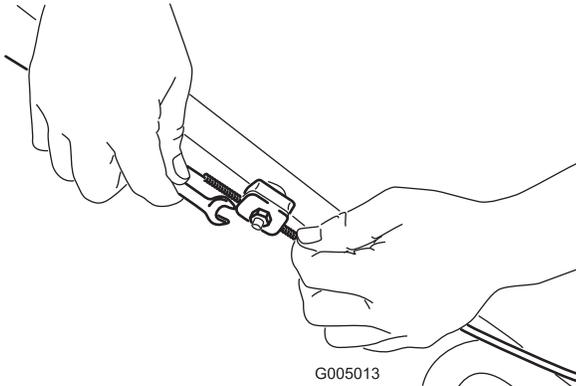

Figure 36
7. Remove the rear-deflector and handle-lock lever assembly (Figure 36).
1. Loosen the cable-support nut (Figure 36).